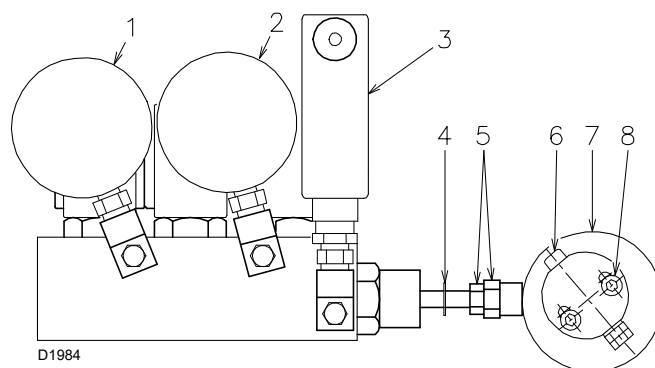

Fig. 20
- The nozzle return pressure value is indicated by the pressure gauge 1)(Fig. 20).
- The nozzle return pressure value is indicated by the pressure gauge 2)(Fig. 20).
The fine adjustment of the pressure in the return line may be carried out by changing the setting of the eccentric 7)(Fig. 20), of the nut and lock-nut 5).
Key (Fig. 20)